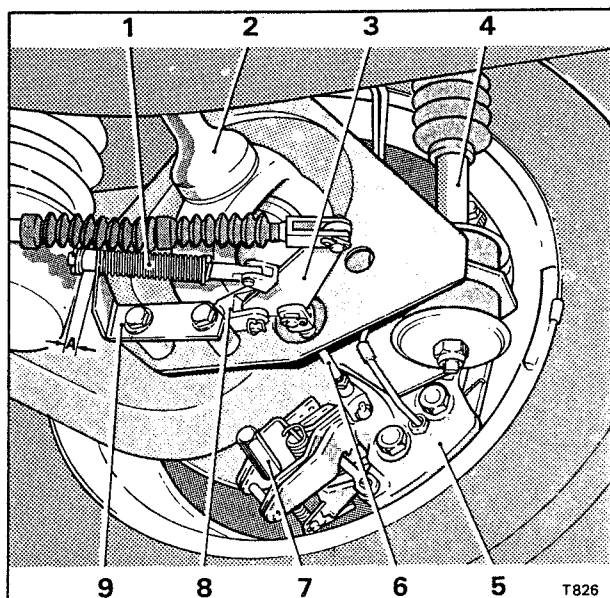

Fig. G45m Parking brake caliper and cable adjustment
5. Ensure the parking brake caliper is on its 'offstop'. Check that the clearance (point A) between the washer on the spring guide rod and the spring abutment bracket is approximately 6 mm. (0.25 in.) at the point of minimum clearance. (see Fig. G45m)